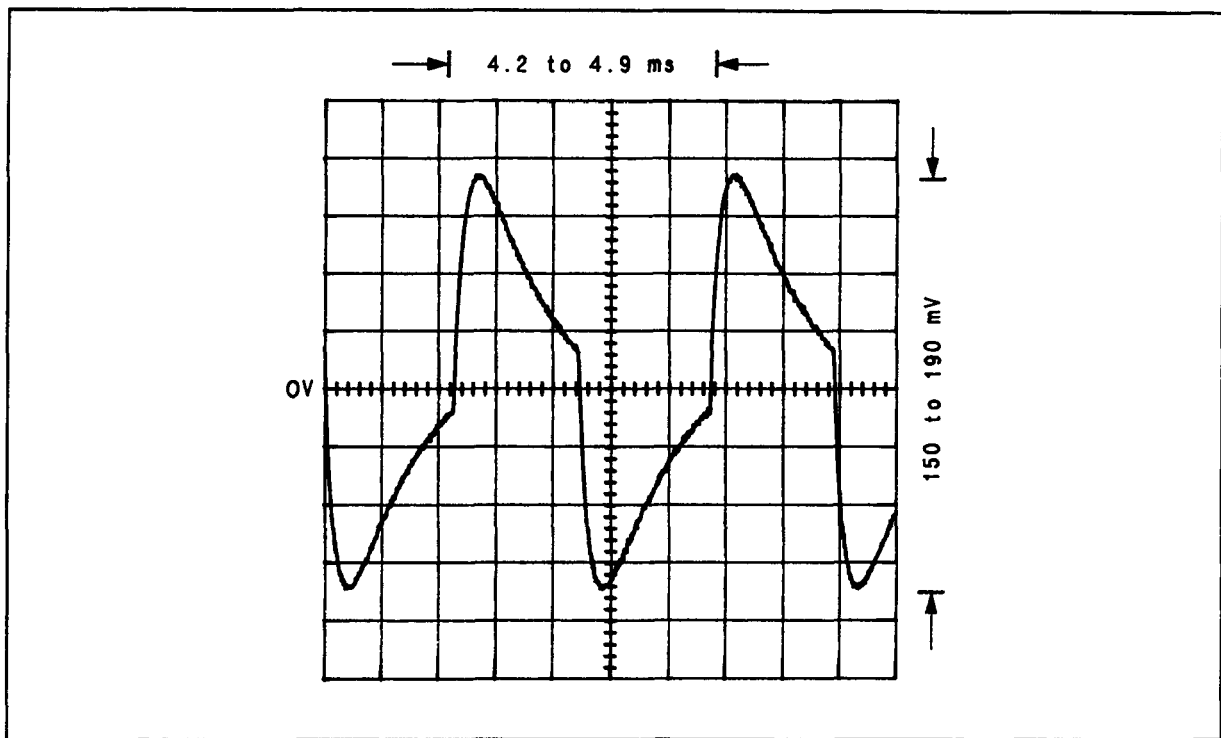

Figure 8F-3. Waveform for √2 Step 3
- Connect the oscilloscope to pin 2 of U4A. Key in 0.209 SPCL to switch U4A on and U4B off. The waveform on the oscilloscope display should appear as shown in Figure 8F-3.